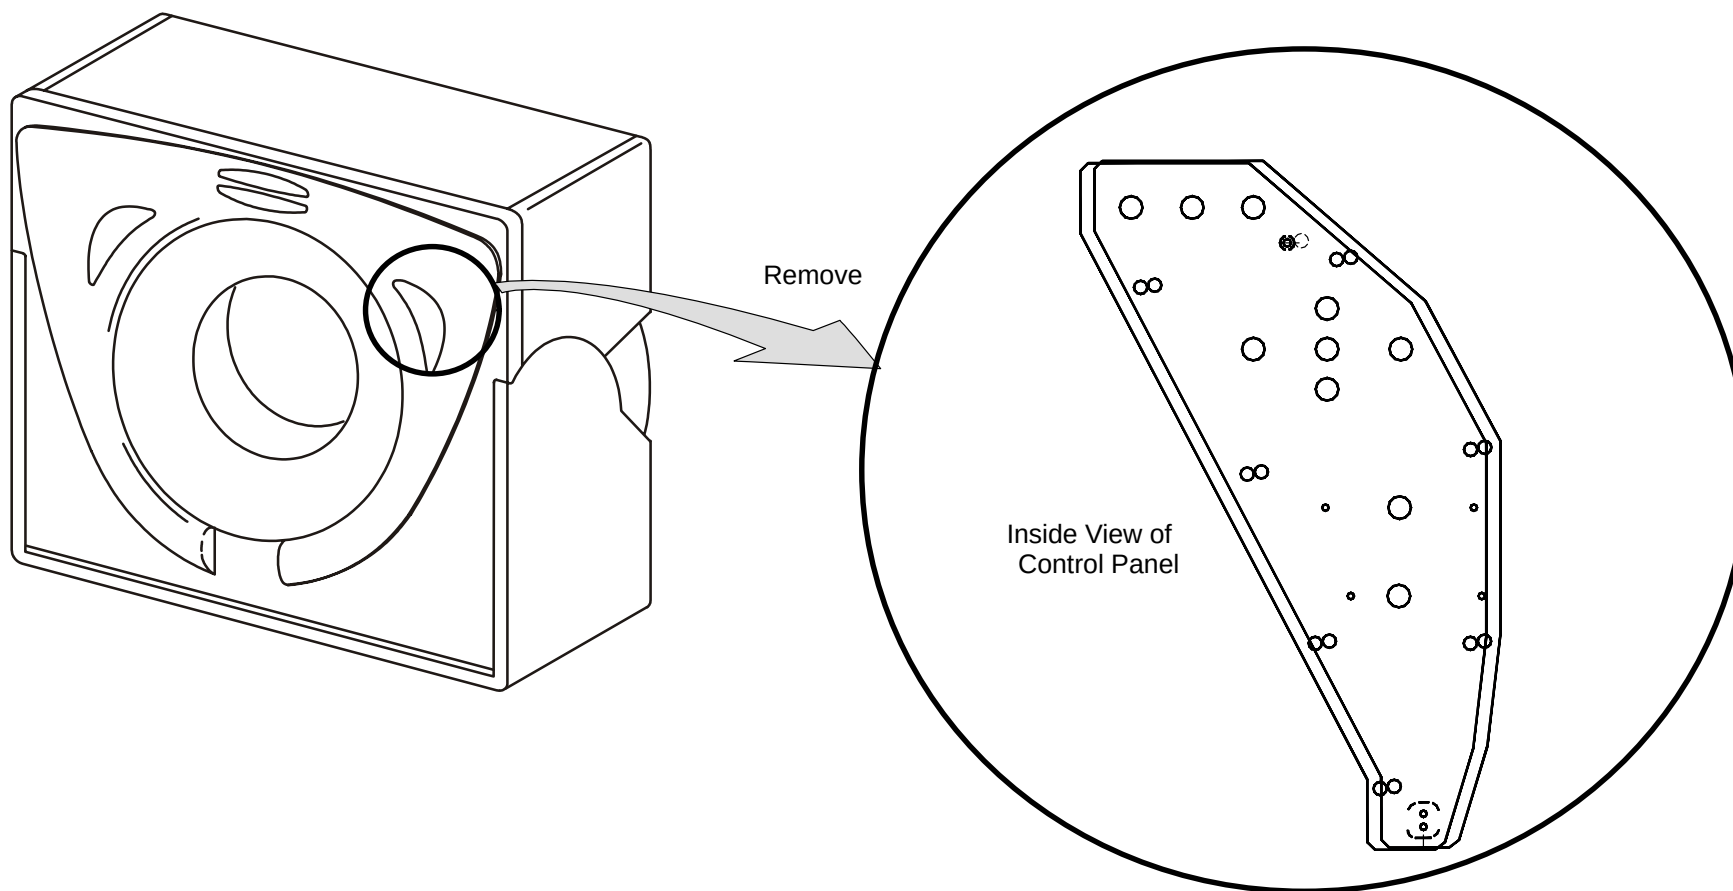

FIGURE 245 Gantry Control Panel
3. Remove the ground wire, ribbon cable and the nine screws that secure the control panel assembly to the inside of the upper cover. Refer to Figure 245.